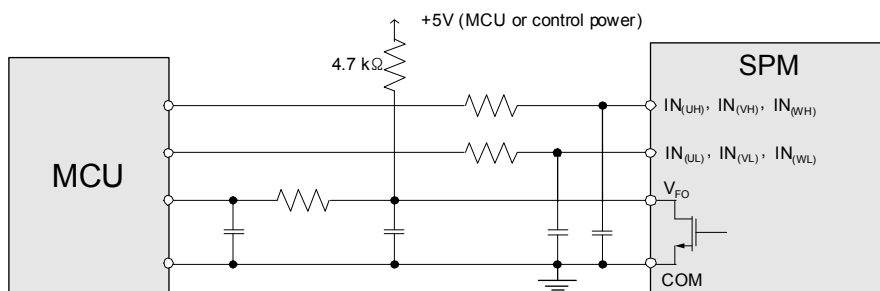

Figure 14. Recommended MCU I/O Interface Circuit
16. V_{FO} output is an open-drain type. This signal line should be pulled up to the positive side of the MCU or control power supply with a resistor that makes I_{FO} up to 2 mA. *Please refer to Figure 14.*